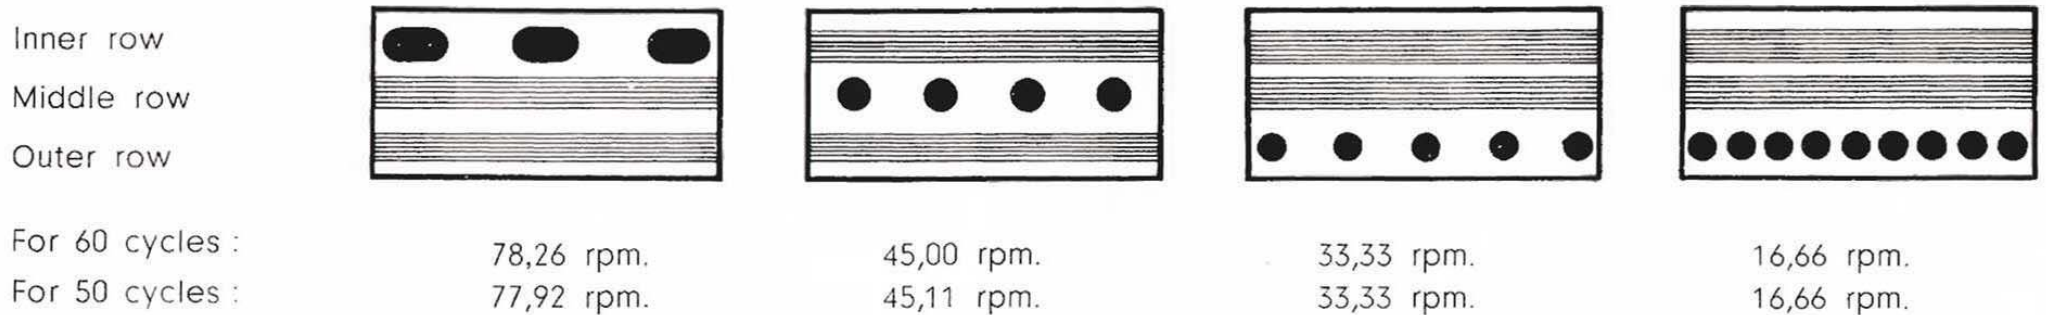

Fig. 7 : Stroboscopic patterns.
- ➌ Check the speed on the stroboscope and adjust with the Speed Adjusting knob until the dots of the row corresponding to the desired speed (see Fig. 7) are slowly advancing in the direction of the turntable rotation.